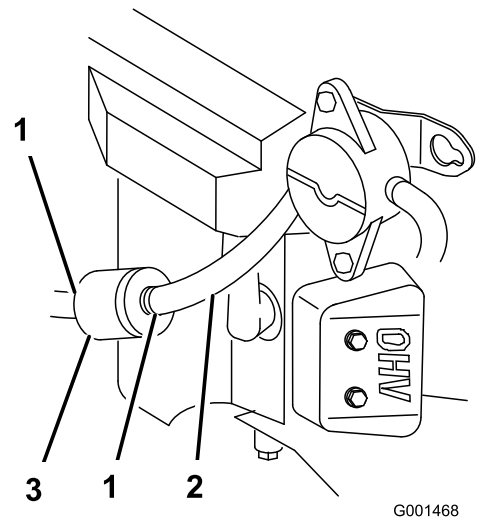

Figure 35
4. Squeeze the ends of the hose clamps together and slide them away from the filter (Figure 35).